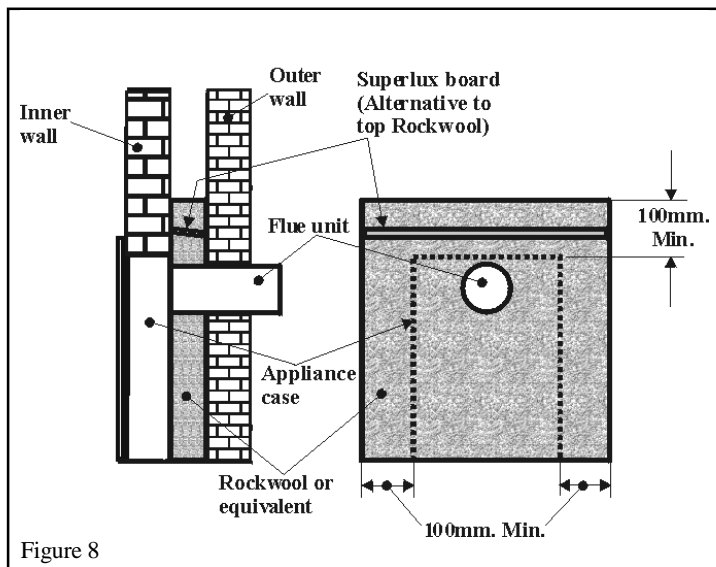

Figure 8
- The cavity should be sealed where the opening has been cut. We recommend filling fully across the cavity with Rockwool or equivalent to at least 100mm above and each side of the recess opening. See figure 8.
- An alternative to rockwool **above** the opening is to seal across the top of the cavity with superlux board or equivalent. The board should slope downwards to the back so that any moisture will be channelled to the outside. See figure 8.